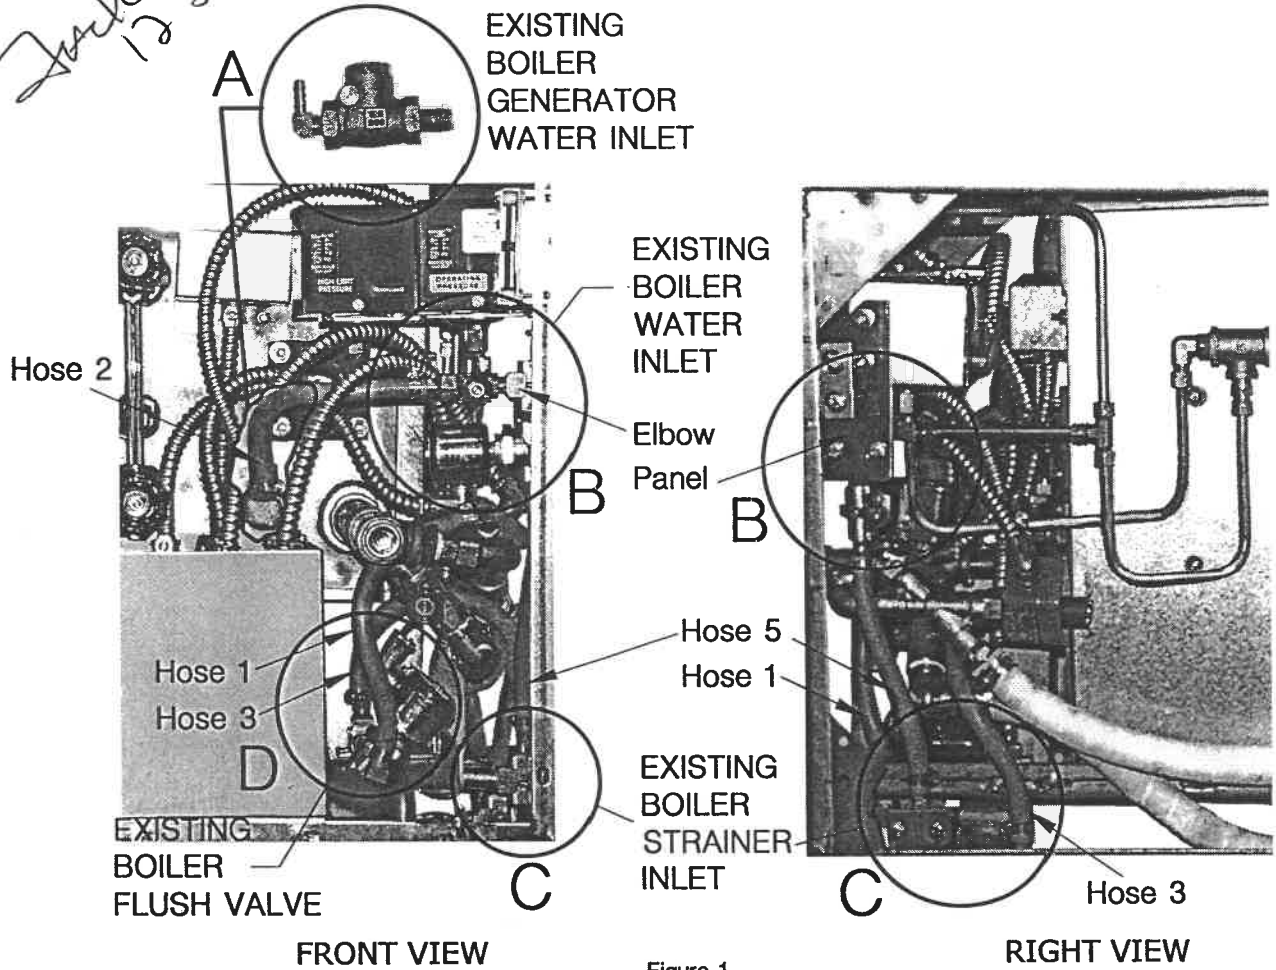
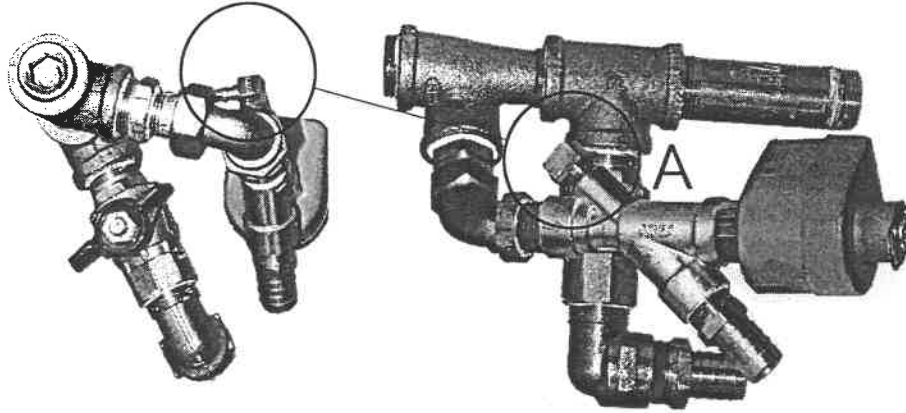
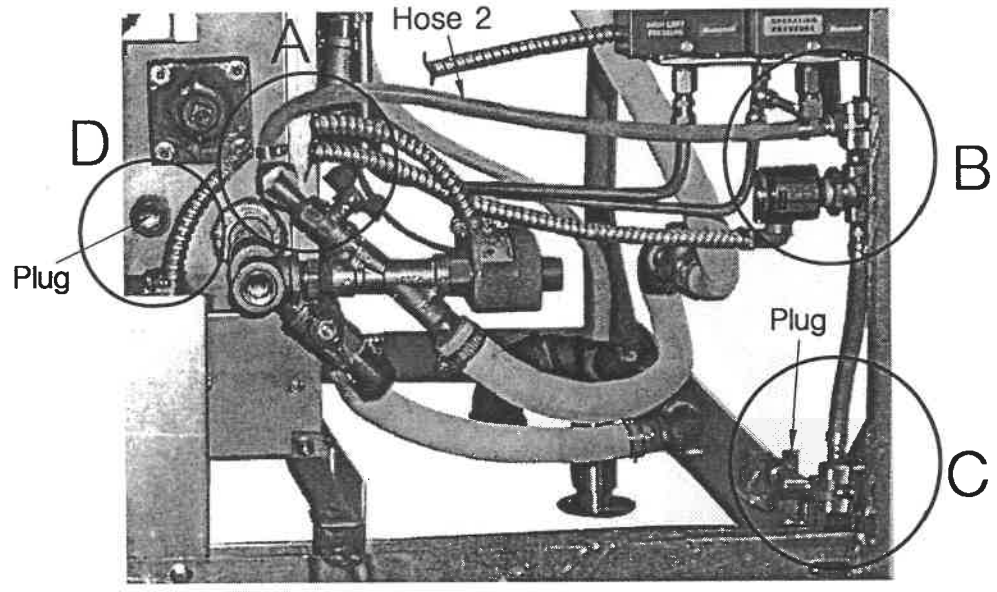

Figure 1
Figure 2
Figure 4
THIS KIT CONVERTS BOILERS WITH THE WATER INLET POSITIONED AS SHOWN IN FIGURE 1 TO AN INLET CONNECTED TO THE DRAIN VALVE AS SHOWN IN FIGURE 3.
- 3) Remove the 1/4" hose 1 (Figure 1) from the fitting connection at the drain valve (circle A in Figure 2).
- 4) Remove the hose barb fitting from the drain valve (circled A in Figure 2).
- 5) Remove the 1/4 " hose 2 from the fitting connection at the generator water inlet (circle A in Figure 1) and at the water inlet (circle B in Figure 1).
- 6) Remove the existing generator water inlet (nipple, check valve, hose barb fitting) see circle A in Figure 1 and plug the open hole with the pipe plug supplied with the kit (circle C in Figure 4).
- 7) Remove the fitting connection from the ball valve at the water inlet (circle B in Figure 1). Remove the ball valve and the valve solenoid with the 1/4 hose barb fitting from the water inlet. Clean the threads on the fitting connection, ball valve and valve solenoid with the 1/4 hose barb.
Remove the rest of the water inlet parts (mounting panel, elbow, nipple) (circle B in Figure 1) and do not use any more.
- 11) Remove the 1/4" hose 3 and filling connection at the strainer inlet (circle C in Figure 1) and plug the open hole with pipe plug supplied with the kit (circle B in Figure 4).
- 12) Remove the the 1/4 hose 5 with the fitting connection from the strainer inlet (circle C in Figure 1). Install the 1/4 nipple supplied with the kit into the open hole instead of fitting connection (circle B in Figure 4).
- 13) Install the valve solenoid with the fitting connection removed in step 7 on the nipple installed on the strain inlet in step 12 (circle B in Figure 4).
- 14) Remove the flush valve with the hoses 1, 3 & conduit with wiring inside the electric box (circle D in Figure 1) and do not use any more. Install the snap-in plug supplied with the kit in the hole on the electric control box where the conduit with wiring inside was removed.
- 15) Referring to Figure 4 circle A & B, connect the 1/4" water hose 2 removed in step 5 to the hose barb fitting on the generator water inlet installed in step 10 and to the fitting connection on the valve solenoid installed on the strainer inlet in step 13.
- 6) Remove the existing generator water inlet (nipple, check valve, hose barb fitting) see circle A in Figure 1 and plug the open hole with the pipe plug supplied with the kit (circle D in Figure 4).
- 7) Remove the fitting connection from the ball valve at the water inlet (circle B in Figure 1). Remove the ball valve from the water inlet and install the removed fitting connection into the water inlet instead of the ball valve (circle B in Figure 4). Clean the threads on the fitting connection before reinstallation into the water inlet and on the ball valve for reassembly in different order.
- 11) Remove the 1/4" hose 3 and filling connection at the strainer inlet (circle C in Figure 1) and plug the open hole with pipe plug supplied with the kit (circle C in Figure 4).
- 13) Referring to Figure 4 circle A & B, connect the 1/4" water hose 2 removed in step 5 to the hose barb fitting on the generator water inlet installed in step 10 and to the fitting connection reinstalled in step 7. The hose has to be cut to allow fitting without kinking.